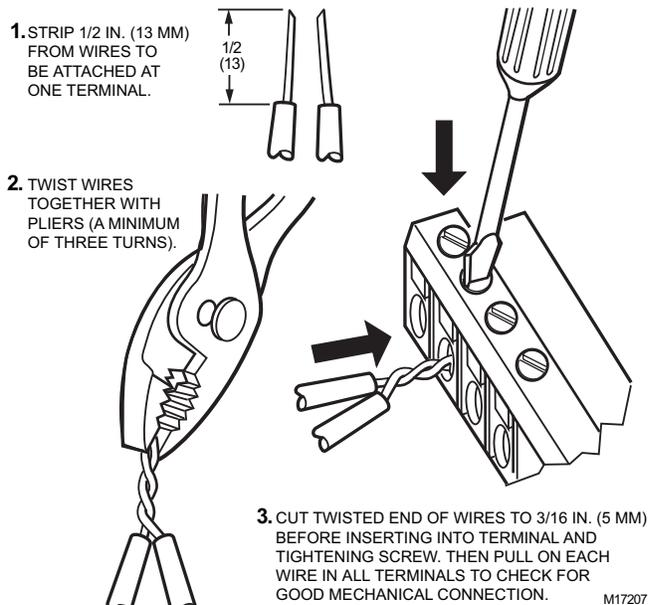

Fig. 15. Attaching two or more wires at terminal blocks.
NOTE: When attaching two or more wires to the same terminal, other than 14 AWG (2.0 sq mm), be sure to twist them together. Deviation from this rule can result in improper electrical contact (see Fig. 15).
- If two or more wires are being inserted into one terminal location, twist the wires together a minimum of three turns before inserting them (see Fig. 15).